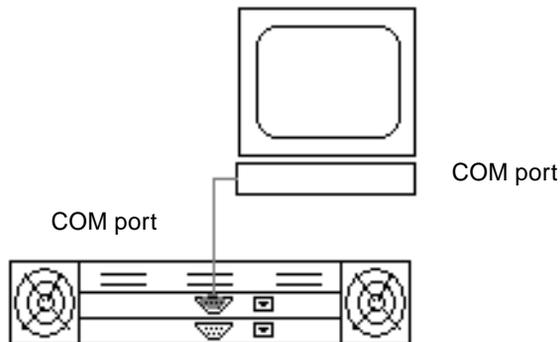

FIGURE 6-1 RAID Array COM Port Connected Locally to the COM Port of a Workstation or Computer Terminal
1. Connect the RAID array COM port to the serial port of a Solaris workstation (see FIGURE 6-1).